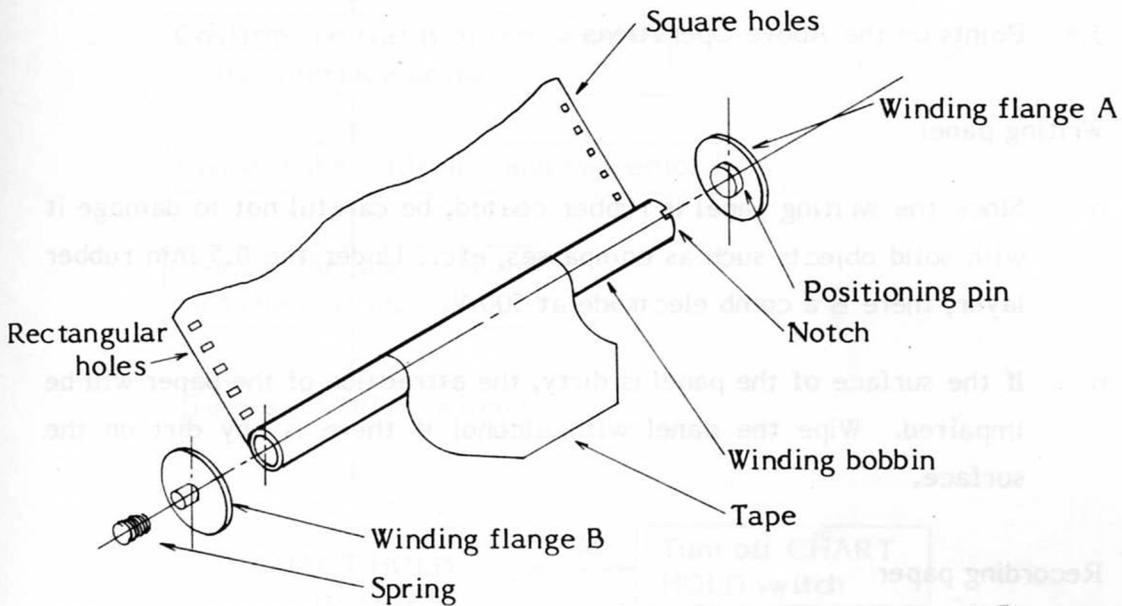

Fig. 3-25 Setting of roll paper 3
- c) Wind the recording paper 2 or 3 times round the winding bobbin as shown in Fig. 3-25 along with the tape attached to the bobbin so that the paper doesn't loosen.